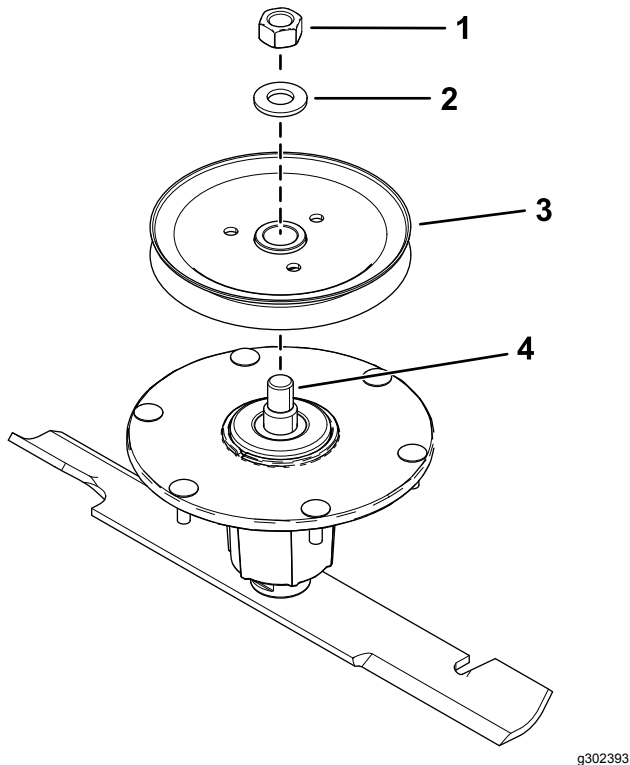

Figure 1
1. Remove the top nut, washer, and sheave from the spindle (Figure 1).